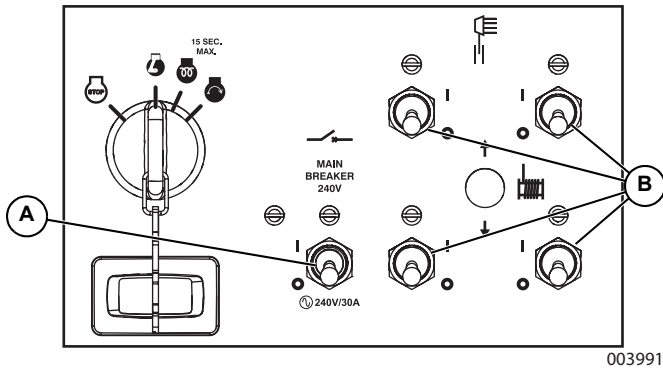

Figure 3-9. Light Switches and Breaker
- See **Figure 3-9**. Switch the main circuit breaker (A) ON (I).
- Switch the individual circuit breakers for the lights (B) ON (I), one at a time.